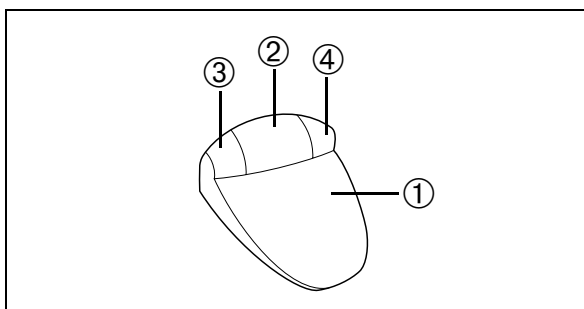

Fig. 59
The intensity is pre-selected using the left-hand 3 and right-hand 4 buttons on the foot control (Fig. 59).
- Holding down the left-hand button 3 (Fig. 59):
- Holding down the right-hand button 4 (Fig. 59):
You switch between dry and spray mode by tapping the right-hand button 4 (Fig. 59).